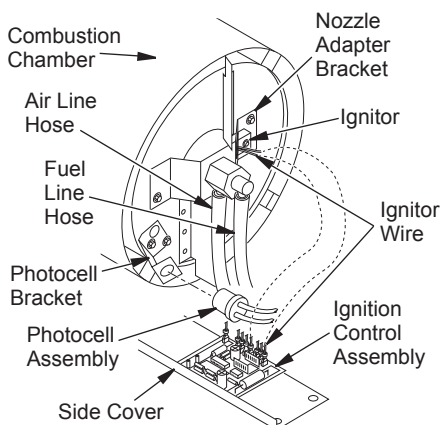

Figure 20 - Disconnecting Ignitor Wires from Ignition Control Assembly
4. Disconnect ignitor wires from ignition control assembly (see Figure 20). Pull the ignitor wires up through the hole in the lower shell.
5. Disconnect fuel line hose and air line hose. Remove photocell from photocell bracket (see Figure 20).
11. Route the ignitor wires back down through the hole in the lower shell. Connect wires to the ignition control assembly (see Figure 20).